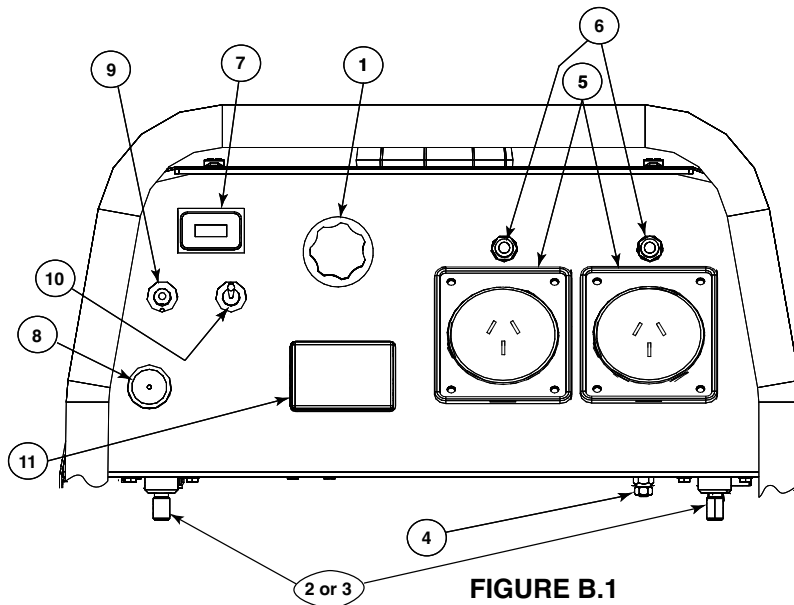

FIGURE B.1
CONTROLS AND SETTINGS All welder/generator controls are located on the Output Control Panel. Petrol engine controls are mounted on the control panel. See Figure B.1 and the figures in engine operation section.
See Figure B.1 for the location of the following features:
1. Remove the flange nuts from the weld output terminals and place the work and electrode welding cables over the terminals. See Figure B.1. Replace and tighten the flange nuts securely. Be sure the connections are tight.
2. Set the current control dial on the output control panel to "MAX." See Figure B.1.